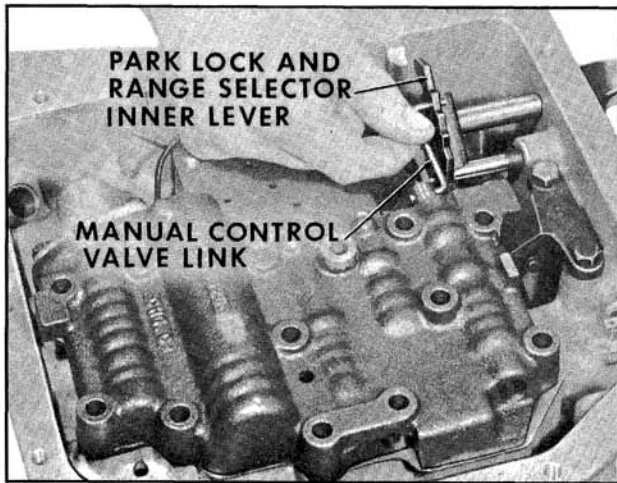

Fig. 6-531 Installing Link
4. Install manual control valve link into park, lock and range selector inner lever. (Fig. 6-531)